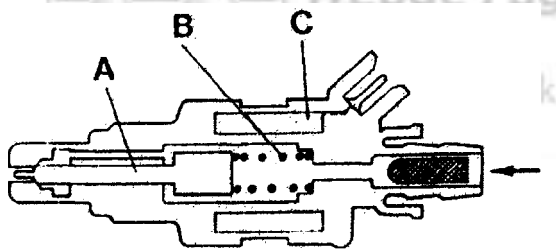

Fig. 2.3 Injector
Each injector contains a needle valve (A) as seen in fig.2.3, which is held closed in the rest position by a coil spring (B). When the electrical solenoid (C) is energised, it lifts the needle valve to allow the fuel to pass; and when the solenoid is de-energised, the spring snaps the needle valve closed to cut off the fuel flow.